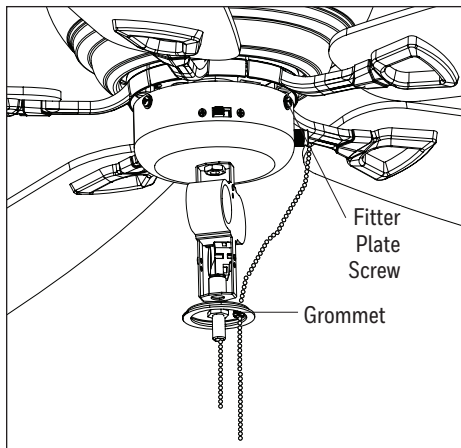

Figure 2.13
13. Attach the light kit to the fitter plate using the three fitter plate screws. Then feed the pull chain coming from the switch housing down through the preassembled grommet in the lower part of the light kit (Figure 2.13).